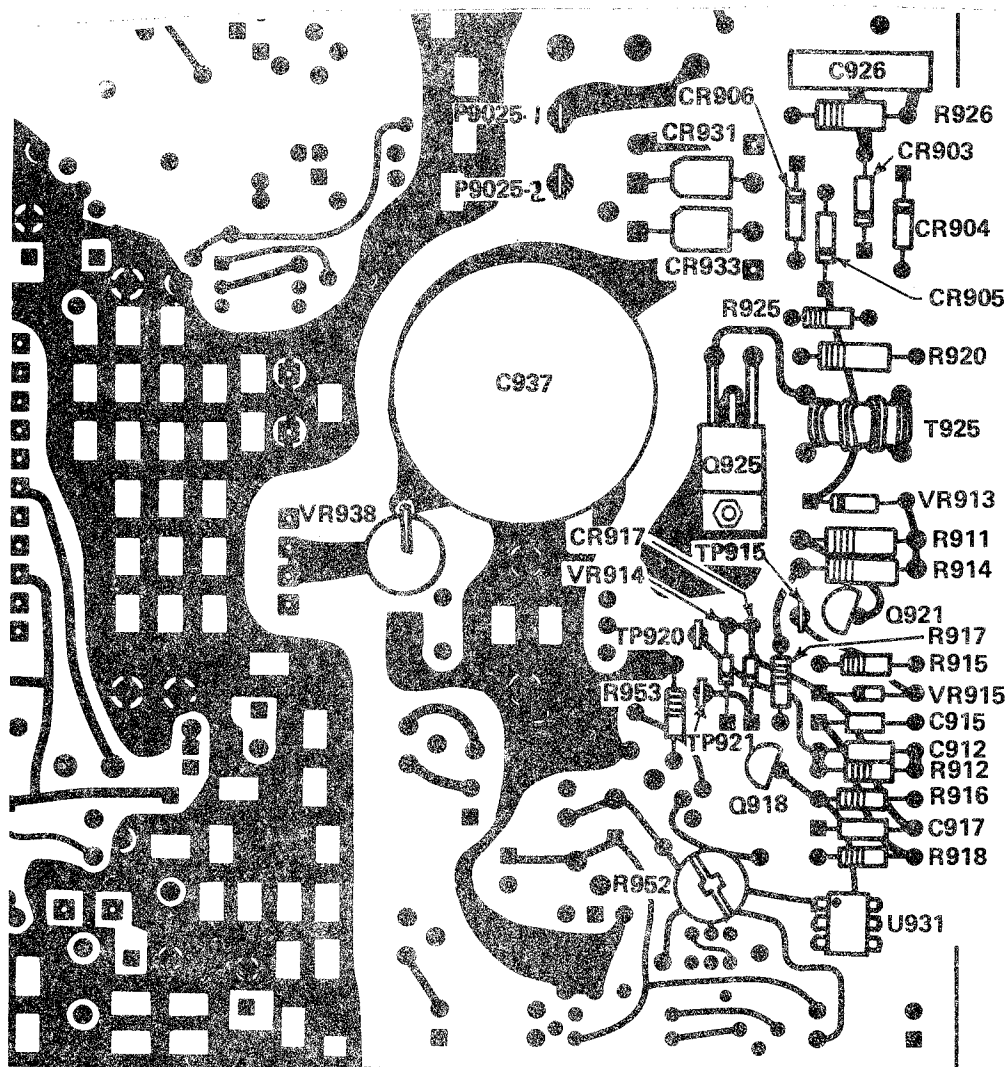

Fig. 1. LOCATIONS OF COMPONENTS REMOVED FROM MAIN CIRCUIT BOARD.
- () 23. Remove the following components from the Main circuit board (refer to Fig. 1 for locations):
- (X) a. C926, a 0.068 μ F capacitor.
- (X) b. R926, a 470 Ω resistor.
- (U) c. P9025-1, P9025-2 (P925-1, P925-2 in some instruments), quick disconnect terminals. (Unsolder P925-1 and remove solder from pad.)
- (U) d. CR931, a rectifier diode.
- (X) e. CR933, a rectifier diode.
- (X) f. CR906, a diode.
- (X) g. CR905, a diode.
- (U) h. CR903, a diode.
- (U) i. CR904, a diode.
- (X) j. R925, a 51 Ω resistor.